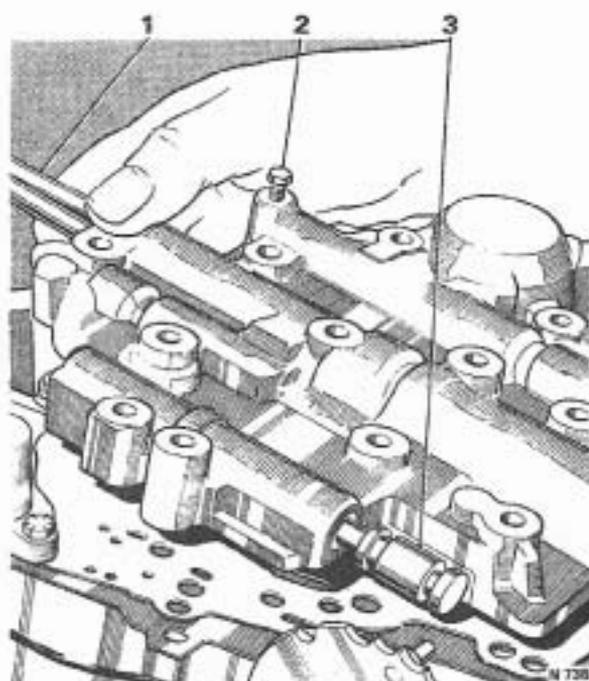

FIG. T198 REMOVING THE CONTROL VALVE UNIT
3. Remove the control valve unit, together with the two governor pipes (see Fig. T198).